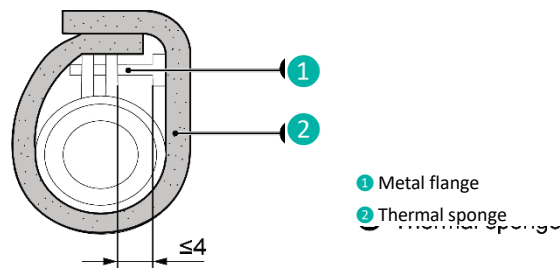

Fig. 4.3.3
- 3 Use the gasket to seal the clamp and the hose, as shown in Fig. 4.3.3.